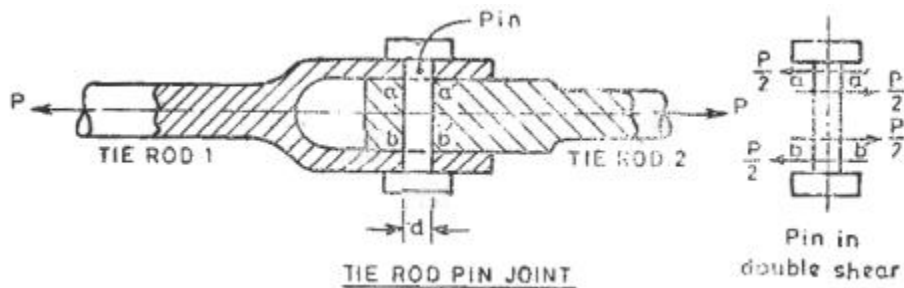

Figure 2(a)
- b) Figure 2(a) shows a two tie rods jointed through a pin of diameter d . The tie rods system transmits a tension force of 10 Kn. Determine the diameter of the pin, if the shear stress in the pin is not to exceed $100\text{N}/\text{mm}^2$.